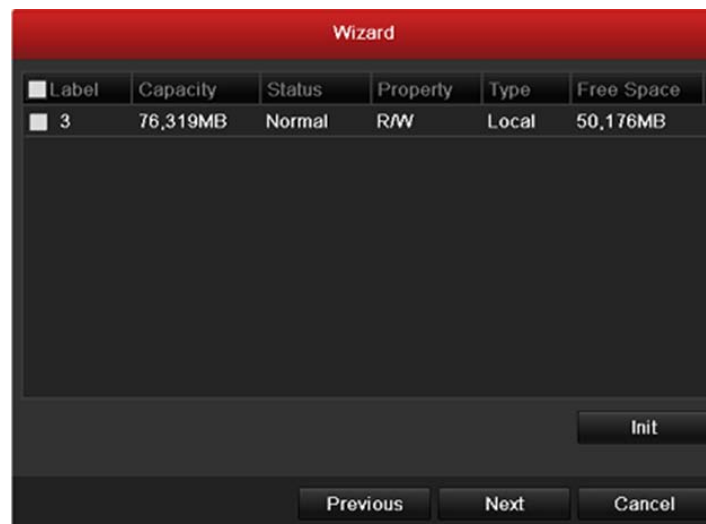

Figure 2.5 HDD Management
- Click **Next** button after you have configured the network parameters. This will take you to the **HDD Management** window, shown in Figure 2.5.